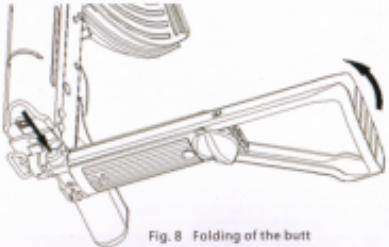

Fig. 8 Folding of the butt
3.6.1 When the stock is folded, press down the clamp of the stock first, then turn the stock rightward to the right side of the receiver (See fig.8)